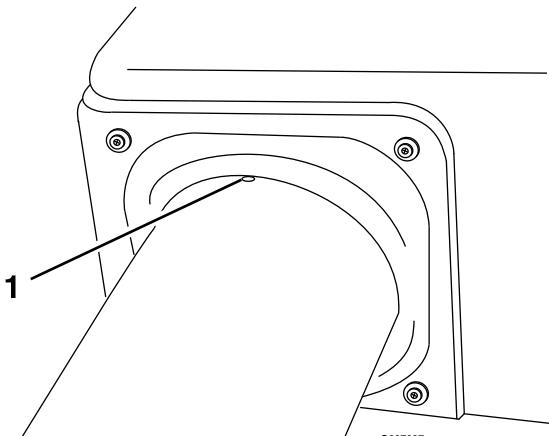

Figure 27
4. Align the dimple on the upper tube with the end of hopper seal and center between the two screws as shown in Figure 27.